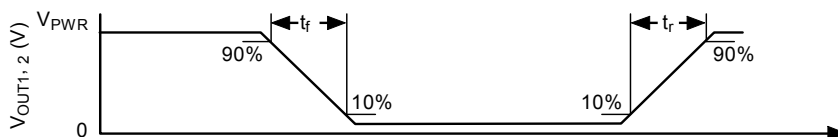

Figure 6. Output Switching Time
23. Rise Time is from the 10% to the 90% level and Fall Time is from the 90% to the 10% level of the output signal. See Figure 6, page 8.